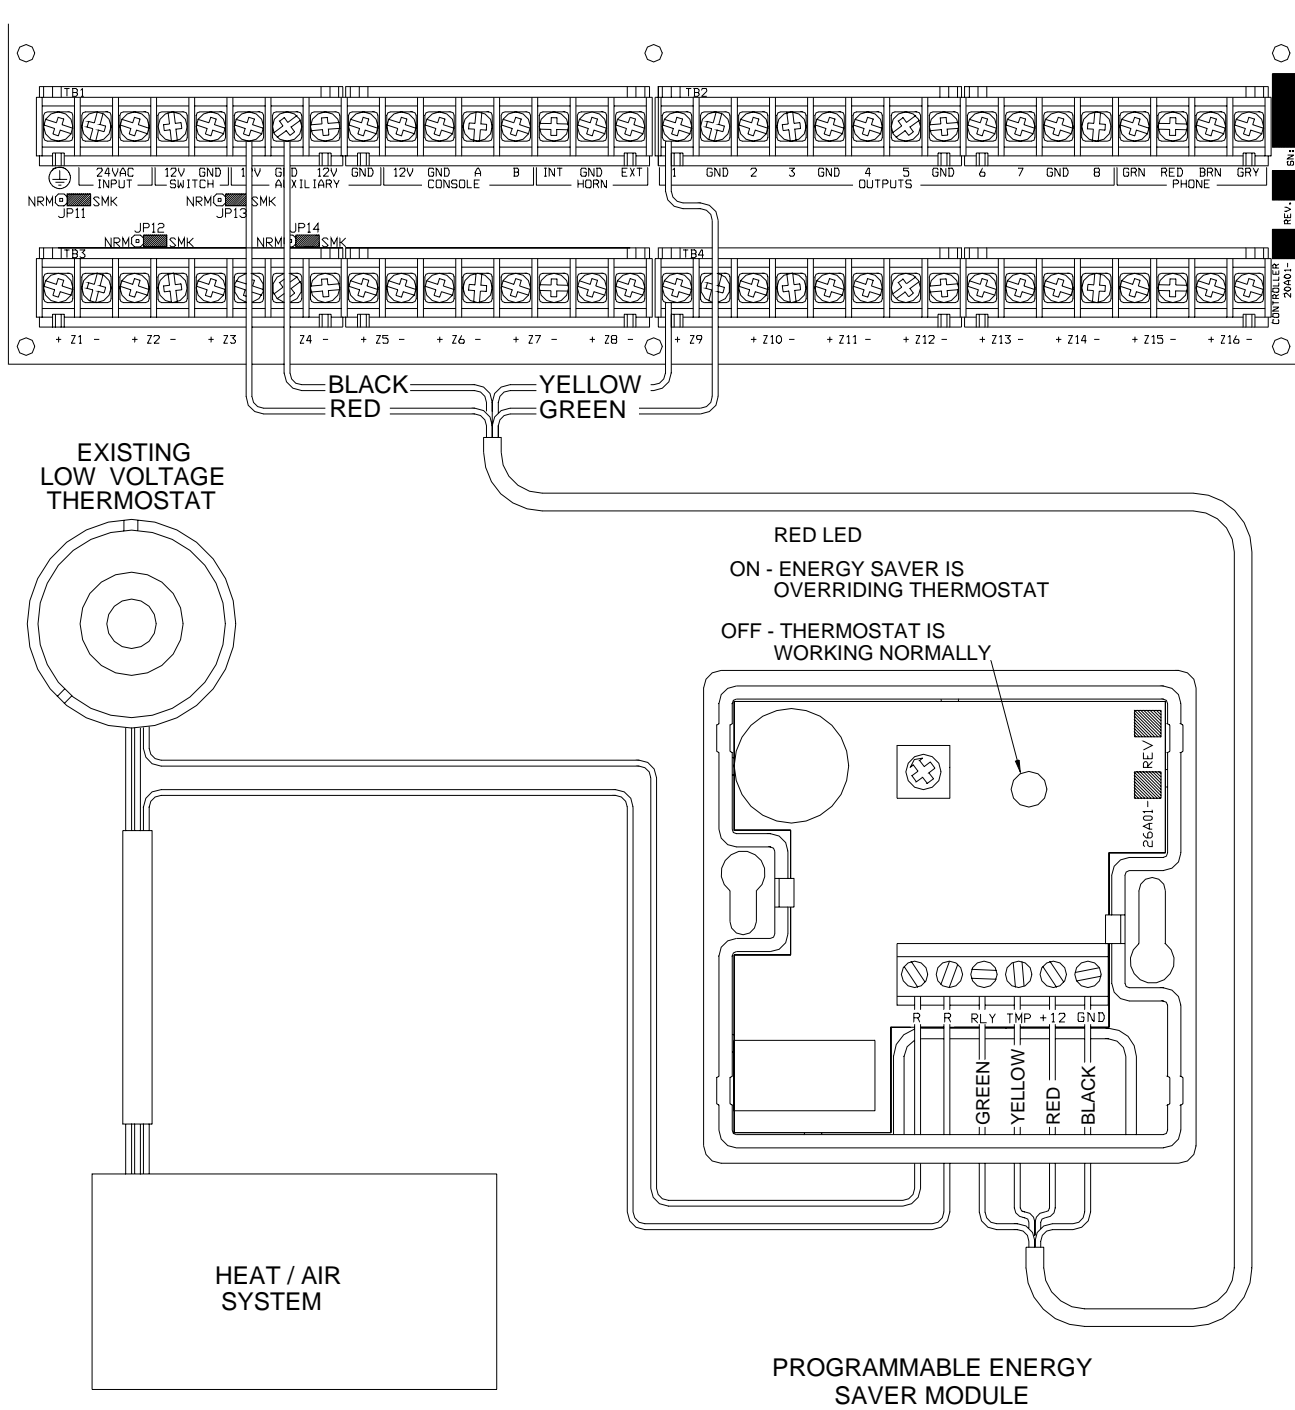

FIGURE 12 - PESM CONNECTIONS
3. Run a 4-conductor wire from the Omni IIe controller to each PESH. Connect as shown in **FIGURE 12 (PESH CONNECTIONS)**.